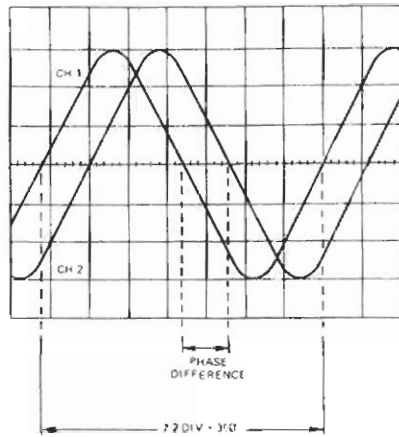

Figure 2-18. Dual-trace method of phase measurement
1. Set up the LBO-325 as described in 2-3-5 **Dual-trace Operation**, connecting one signal to the CH 1 or X IN connector (9) and the other to the CH 2 or Y IN connector (10).
2. Set the trigger SOURCE switch (28) to the channel with the least noise and most stable trace. Temporarily move the other channel's trace off the screen by means of its Vertical Position control.
3. Center the stable (trigger source) trace with its Vertical Position control, and adjust its amplitude to exactly 6 vertical division by means of its VOLTS/DIV switch (11) and VARIABLE control (12).
4. Use the LEVEL control (31) to ensure the trace crosses the central horizontal line at or near the beginning of the sweep. (See Figure 2-18.)
5. Use the A TIME/DIV switch (20), the Time VARIABLE control (22), and the Horizontal Position control (24) to display one cycle of trace over 7.2 divisions. When this is done, each major horizontal division represents  $50^\circ$ , and each minor division represents  $10^\circ$ .
7. The horizontal distance between corresponding points on the waveform is the phase difference. For example, in the Figure 2-18 illustration the phase difference is 6 minor divisions, or  $60^\circ$ . Use the Horizontal Position control (24) to align one of the mid-cycle zero crossings with a graticule calibration to facilitate this measurement.
8. If the phase difference is less than  $50^\circ$  (one major division), pull the PULL X10 MAG switch (24) and use the Horizontal Position control (24) (if needed) to position the measurement area back on screen. With 10X magnification, each major horizontal division is  $5^\circ$ , and each minor division is  $1^\circ$ .